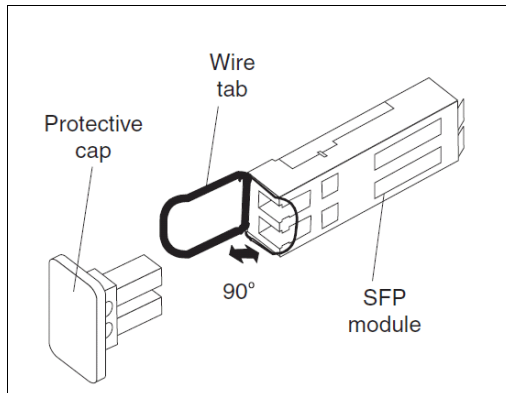

Figure 3-15 Unlocking the SFP module latch - wire variety
- For SFP modules that contain wire tabs, unlock the SFP module latch by pulling the wire latch outward 90°, as shown in Figure 3-15.